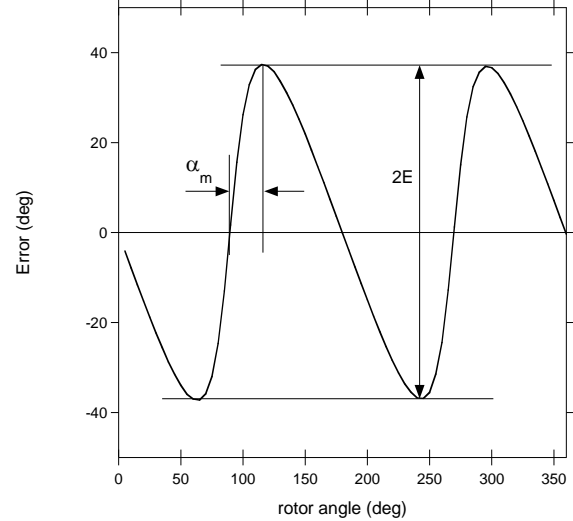

Figure 27: Error Curve in Side-Shaft Configuration with BCT = 0
The ratio k depends on the magnet geometry and the distance to the sensor (see Figure 33). Having a k ratio different from 1 results in the sensor output response not being linear with respect to the mechanical angle. The error curve has the shape of a double sinewave (see Figure 27). E is the amplitude of this error.
It is possible to deduce the *k* ratio from the error curve obtained with the default BCT setting (BCT = 0). To do this, rotate the magnet over one revolution and record the MagAlpha output. Then plot the error curve (the MagAlpha output minus the real mechanical position vs the real mechanical position) and extract two parameters: the maximum error *E*, and the position of this maximum with respect to a zero crossing α_m (see Figure 27). *k* can be calculated with Equation (5):